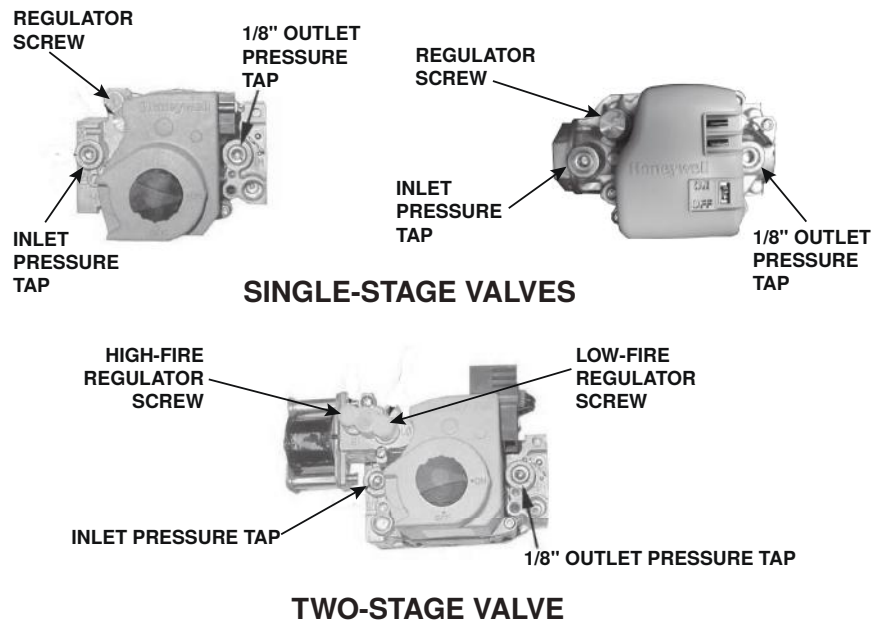

Figure 21. Combination Gas Valves
2. Connect manometer to 1/8-inch output pressure tap on valve (see Figure 21).
5. If manometer reading does not indicate that valve outlet pressure is in accordance with Table 22, remove cap from regulator screw(s) (see Figure 21) and adjust pressure by turning regulator screw IN (clockwise) to increase pressure or OUT (counterclockwise) to decrease pressure.
4. Connect manometer to 1/8-inch output pressure tap on valve (see Figure 21).
- b. Remove cap from regulator screw (see Figure 21) and adjust pressure in accordance with Table 22 by turning regulator screw IN (clockwise) to increase pressure or OUT (counterclockwise) to decrease pressure.
- b. Remove cap from low-fire regulator screw (see Figure 21) and adjust pressure in accordance with Table 22 by turning regulator screw IN (clockwise) to increase pressure or OUT (counterclockwise) to decrease pressure.
10. Connect manometer to inlet pressure tap (see Figure 21). While heater is operating, measure inlet pressure, which should be between 5 and 13.5 IN WC for natural gas or between 11 and 13.5 IN WC for propane.